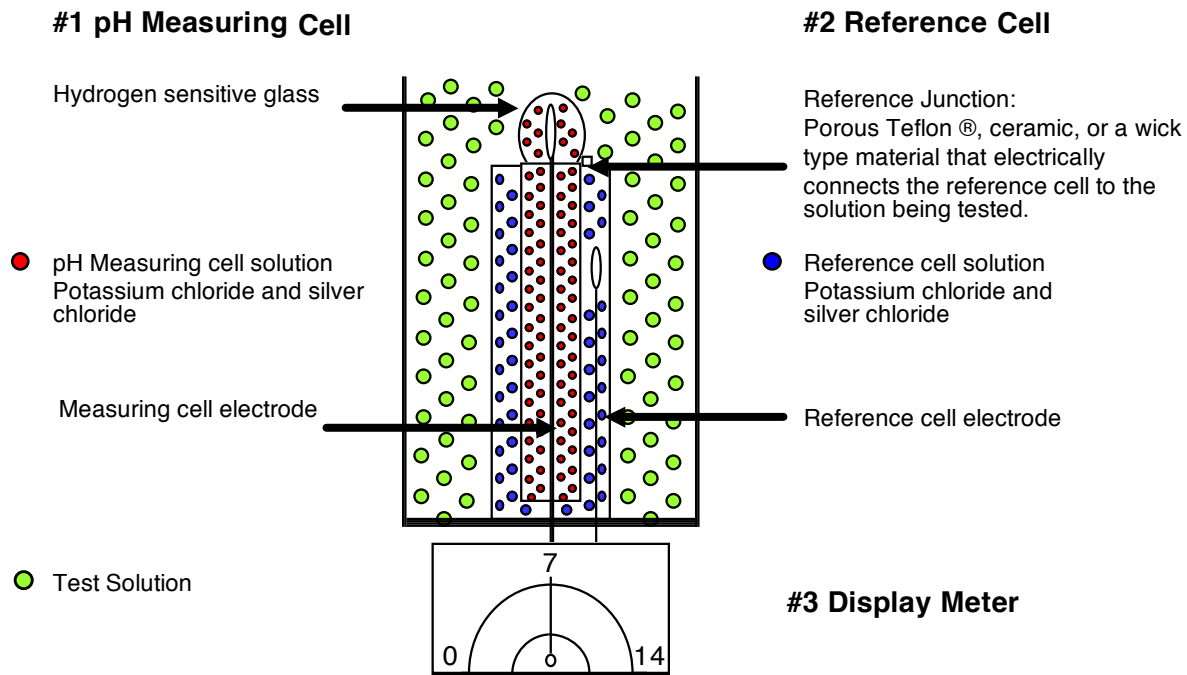

Figure 1
A pH instrument consists of three main components, refer to Figure 1.
1. The pH sensor well (fig 1) must be filled with **Myron L** storage solution (preferred) or **Myron L** pH buffer 4, or tap water with table salt added and its protective cap (with foam insert) firmly installed.